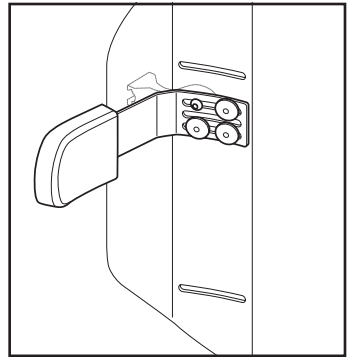

Fig. 8
3. Mount three (3) ¼-20 x .375 cap screws through the lateral shell bracket on the inside of the shell. Fig. 8